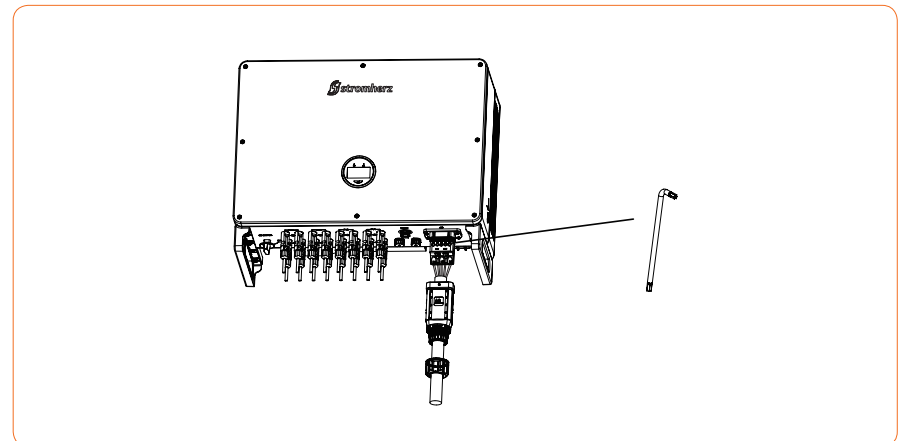

Figure 4-19
③ Insert the cable into the rubber core in the wire sequence, and observe whether the cable is plugged in place through the perspective hole, and finally crimp it with a screwdriver, as shown in Figure 4-19: